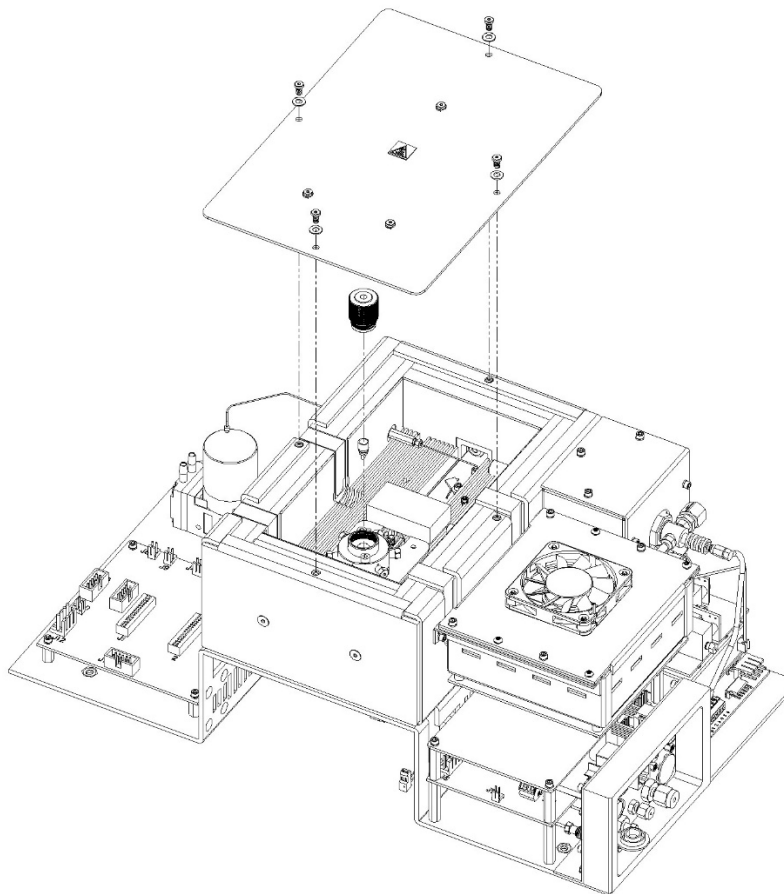

Figure 5-7. Oven Access
3. Referring to Figure 5-7, remove only the four hex screws along the outer perimeter of the oven cover, one per side (do not remove the three inner screws that hold the insulation in place), and set the screws and cover aside.